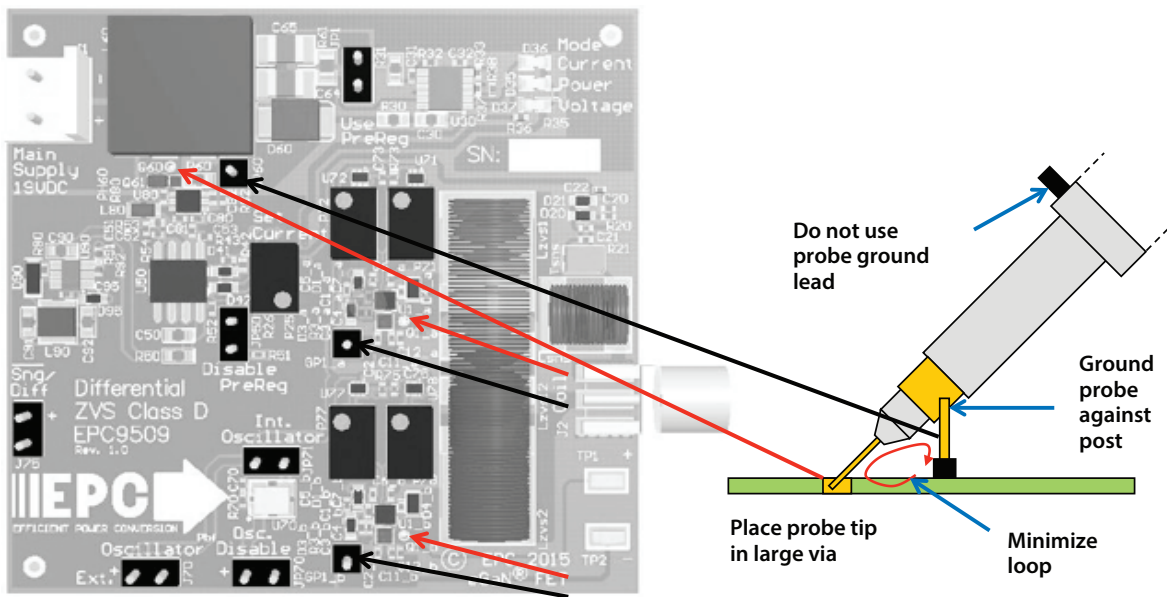

Figure 9 : Proper measurement of the switch nodes using the hole and ground post
3. Connect a LOW capacitance oscilloscope probe to the probe-hole of the half-bridge to be set and lean against the ground post as shown in Figure 9.